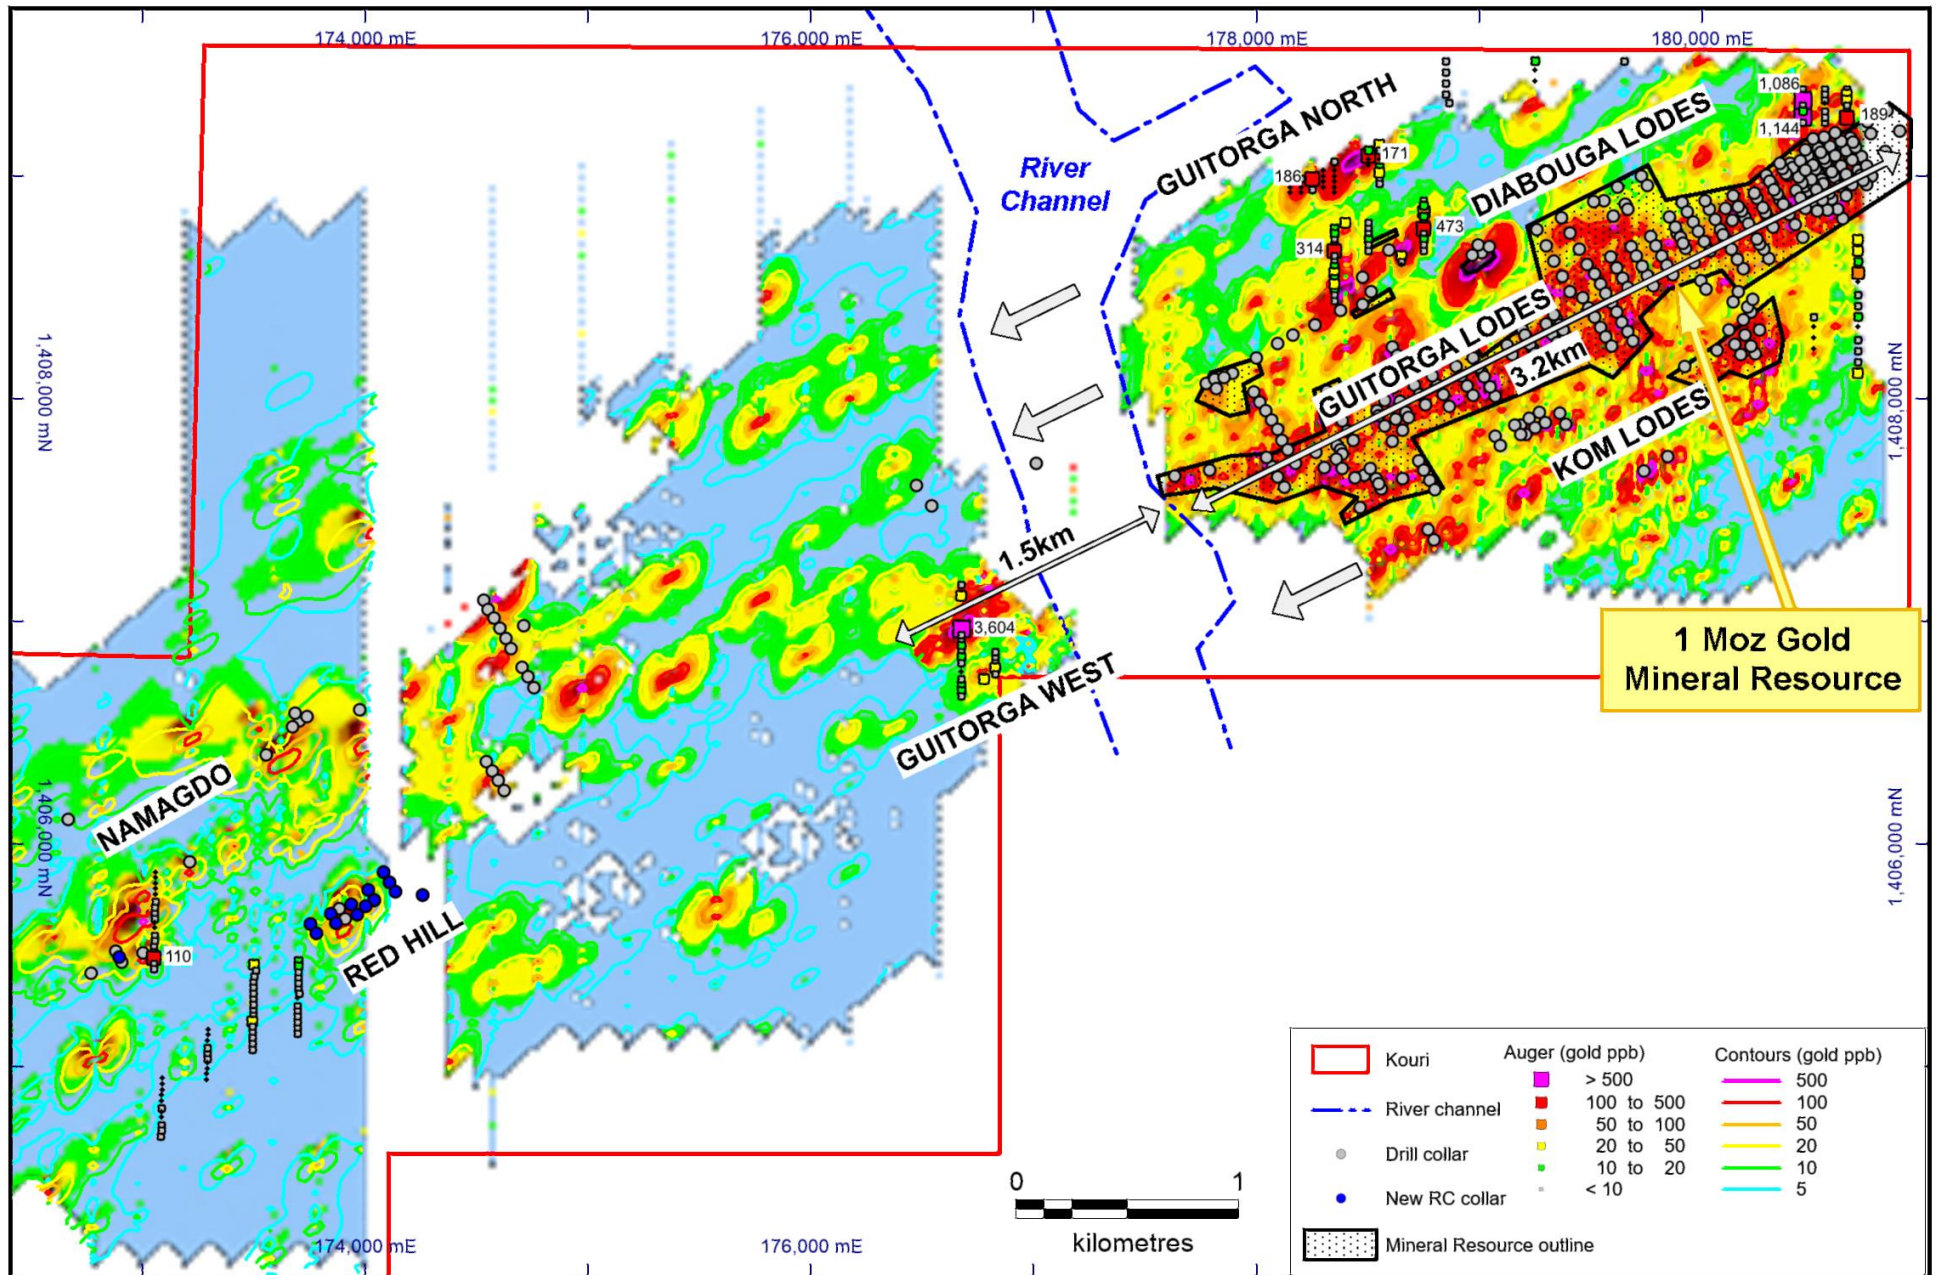

Figure 1. Location of the new anomalous gold-in-auger results at Guitorga West, Diabouga and Guitorga North over an auger gold image.
The gold anomalous auger results at Guitorga West correspond with extensions to the Induced Polarisation (IP) chargeability high anomalies associated with the gold lodes (e.g. Guitorga Lodes) that comprise the Mineral Resource. Golden Rim believes the gold mineralisation that comprises the Mineral Resource may be continuous through the river channel to Guitorga West (for a further 1.5km of strike) and beyond. The river channel has sediment cover generally too deep for auger sampling (i.e. >10m) (Figures 1) and exploration over this area will be completed by air core drilling.
A highly anomalous bedrock gold anomaly has also been confirmed along the northern extent of the Diabouga Lodes, 100m north of the Mineral Resource (Figure 1). New infill auger results from this area include **1,144 ppb and 1,088 ppb gold**.
Further anomalous gold results, including **473 ppb and 314 ppb gold**, have been obtained from infill auger drilling around previous anomalous auger holes at the southern Diabouga Lodes and at Guitorga North (Figure 1).
A follow-up RC drilling program consisting of 14 holes (NKRC032 – NKRC043, NKRC045 and NKRC035R) for 1,805m has recently been completed at Red Hill (Figures 1 and 2). A series of fences of holes were drilled along the interpreted strike to the northeast and to the southwest of the discovery holes, NKRC030 (11m at 2.2g/t gold from 77m, including 2m at 7.7g/t gold, and 1m at 4.6g/t gold from 114m) and NKRC031 (16m at 1.8 g/t gold from 29m and 10m at 2.2g/t gold from 52m). Hole details are provided in Table 1.